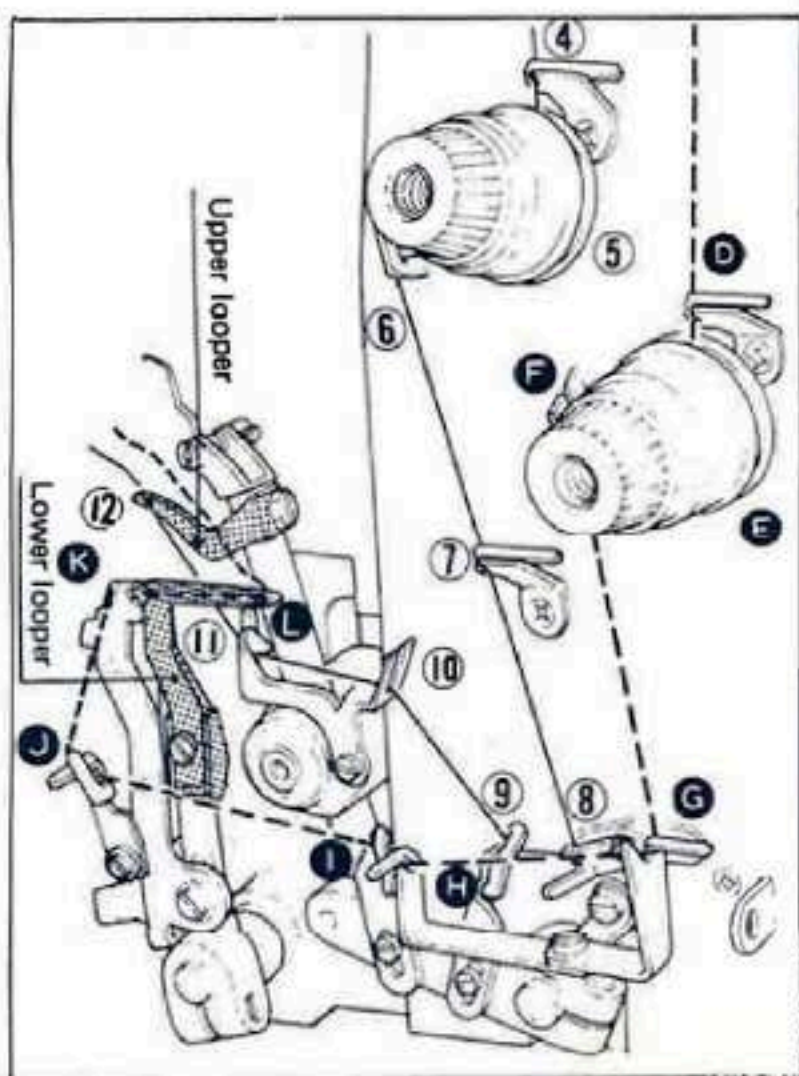

Figure 8
- Thread lower looper eye and pass thread over upper looper (See Figure 8) and under rear of presser foot, leaving about 10 cm of thread.